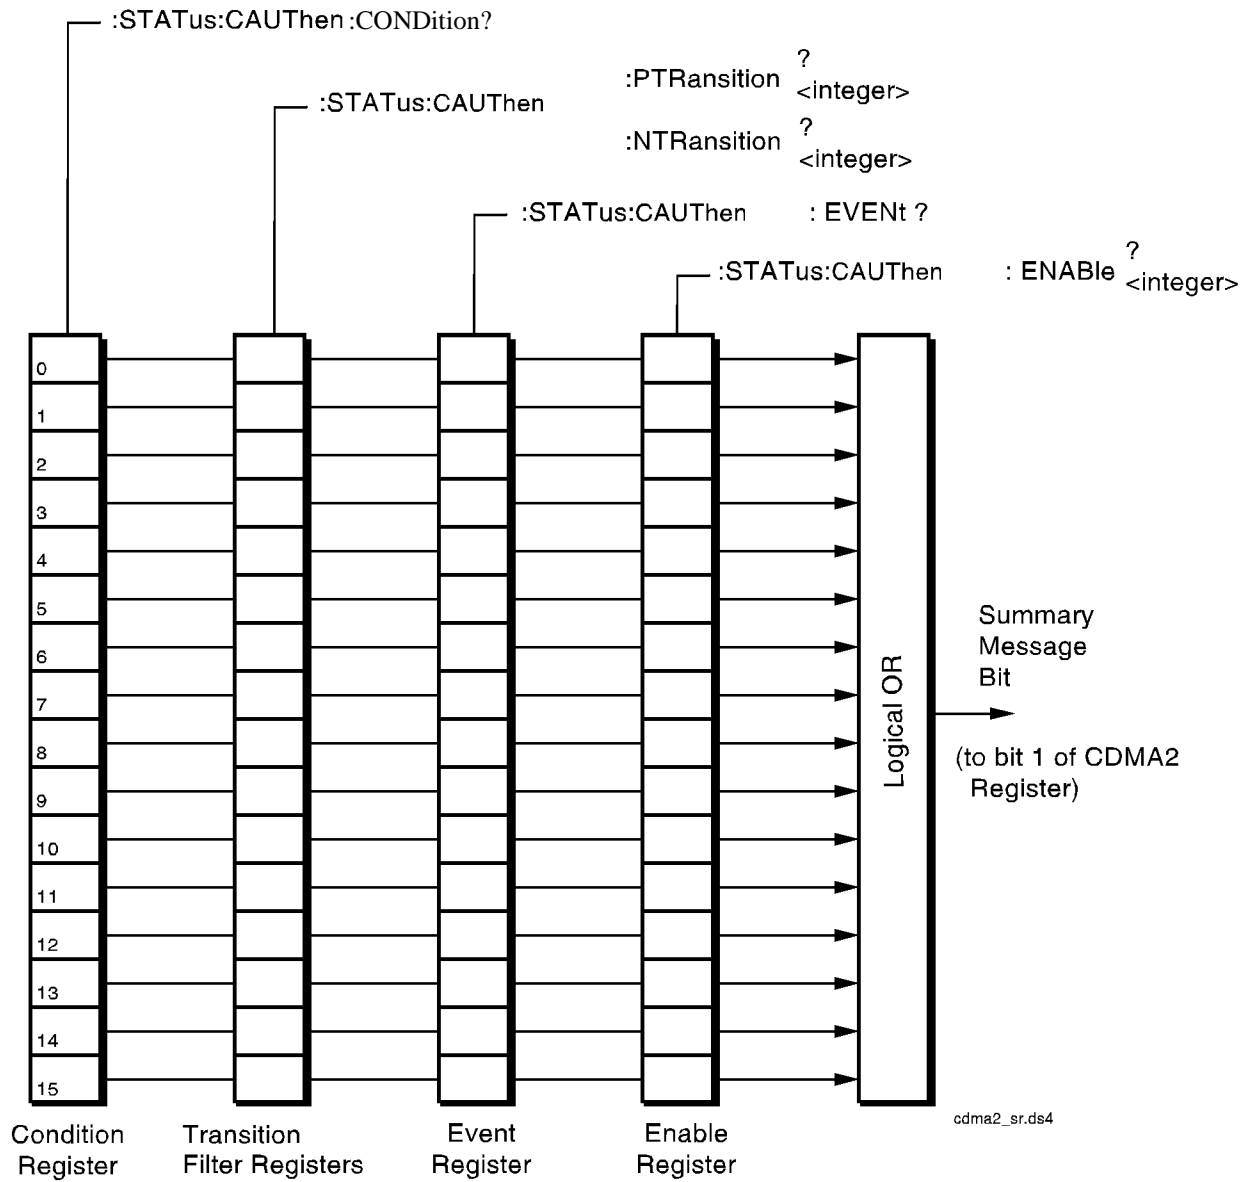

Figure 14 CDMA Authentication Status Register Group
**Figure 14** shows the structure and STATUS commands for the CDMA Authentication Status Register Group.